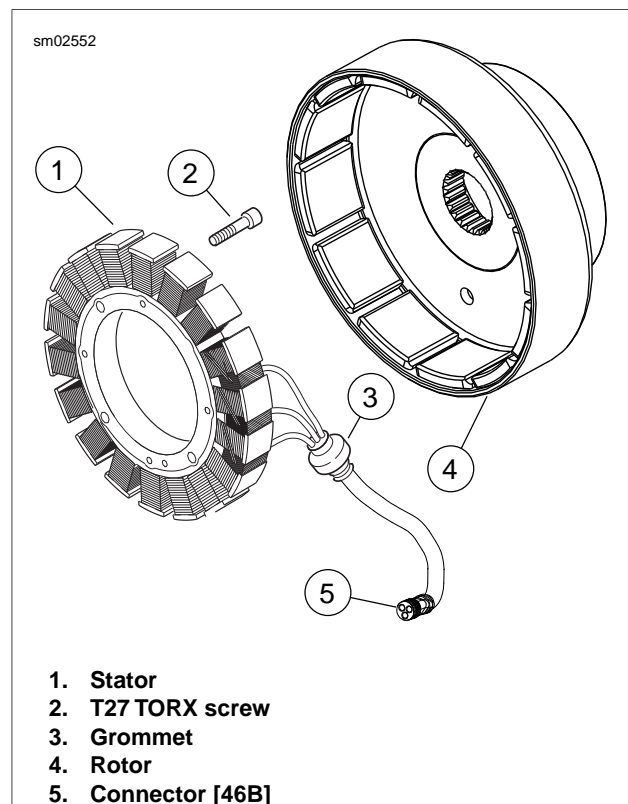

Figure 8-37. Rotor and Stator
4. See Figure 8-37. Remove the alternator rotor (4) using two bolts inserted through the holes in the rotor face.
5. Remove the T27 TORX screws (2).
6. Remove the stator (1).
2. See Figure 8-37. Push rubber grommet (3) through crankcase hole. If necessary, apply the same lubricant used during removal.
3. Mate connector [46] (5) into voltage regulator and engage latch to secure. See 8.5 VOLTAGE REGULATOR.
4. Install the stator (1) on the crankcase and fasten in place using **new** TORX screws. Tighten to 55-75 **in-lbs** (6.2-8.4 Nm).
5. Install the rotor (4) on the sprocket shaft.